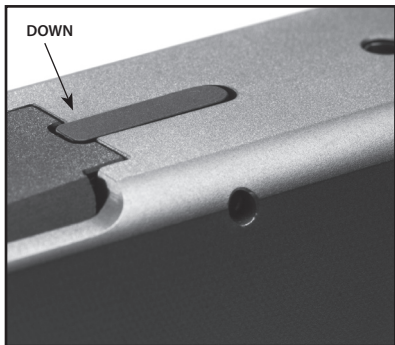
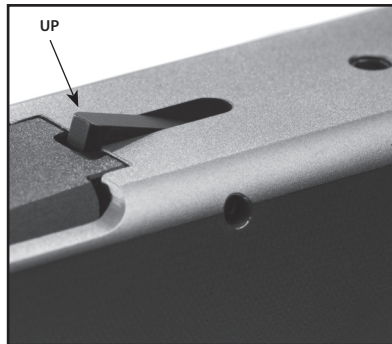

Figure 12-1
Figure 12-2
Your **XP^M** firearm has a loaded chamber indicator (See Figure 12-1.) The indicator allows you to observe whether a cartridge is in the chamber. When a cartridge is in the chamber the indicator raises above the barrel (See Figure 12-2.) **When the loaded chamber indicator is up, the firearm is ready to fire.**
6. The loaded chamber indicator will be in the up position (See Figure 12-2.)